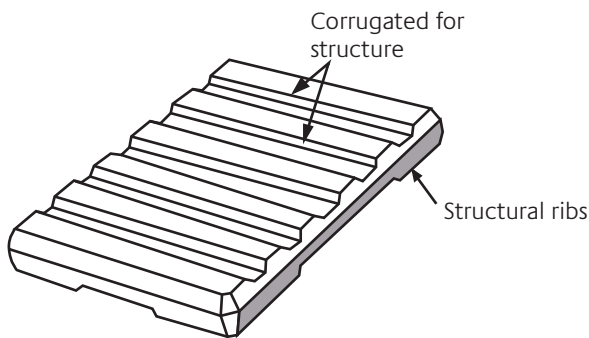

Figure 9
2. Balance section modulus through ribbing a single wall (figure 9).